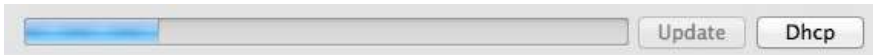

Figure 37
- Select the **Update** button. Reference Figure 37. A blue progress bar will provide you with the upgrade status.